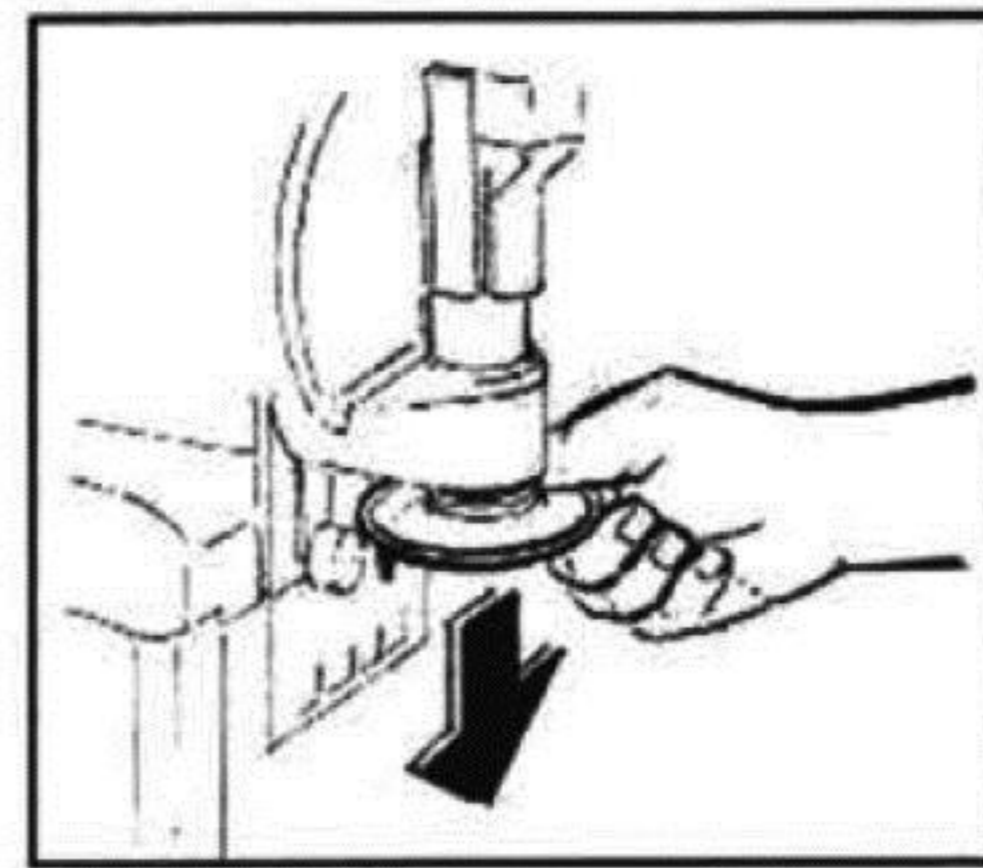

fig.28
- Remove the accessory to give a "star" peculiar shape to the dispensed product (fig.28).